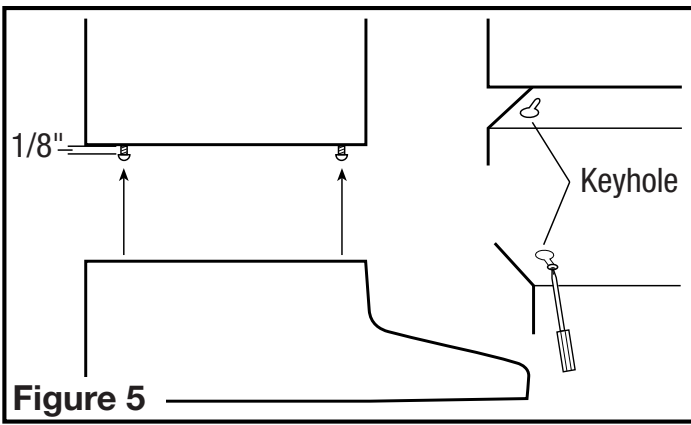

Figure 5
1. Install the 4 mounting screws at the previously marked locations. Leave approximately 1/8" clearance. Slide the hood in place through the keyhole slots and align the front of the hood so that it is flush with the front of the cabinets. Tighten all screws securely (**Figure 5**).